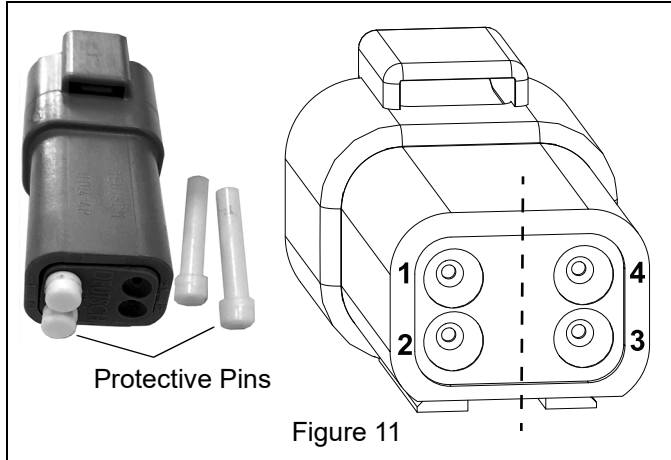

Figure 11
**IMPORTANT:** Choose one side of the plug or the other. DO NOT connect diagonally. See Figure 11.